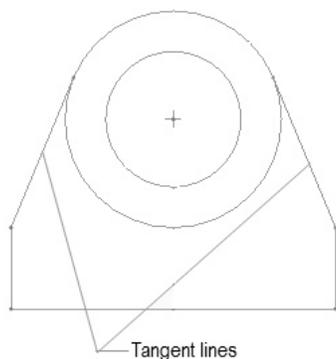

**Figure 2-34** Line created with the center point of the sketch
- Draw lines by using the **Line/Arc Chain** tool, refer to Figure 2-34.
11. When the **L** guide symbol appears on the vertical line, click to specify the endpoint of the vertical line. The rubber-band line is still attached to the cursor. Press the middle mouse button to end the line creation, refer to Figure 2-34.